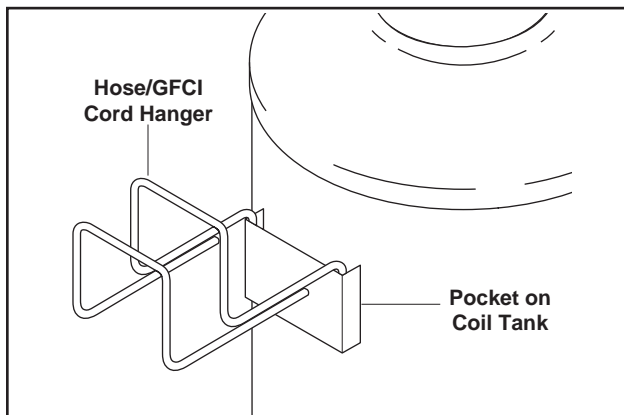

Figure 1 - Hose/GFCI Cord Hanger
1. Install Hose/GFCI Cord Hanger on coil tank as shown in **Figure 1**.